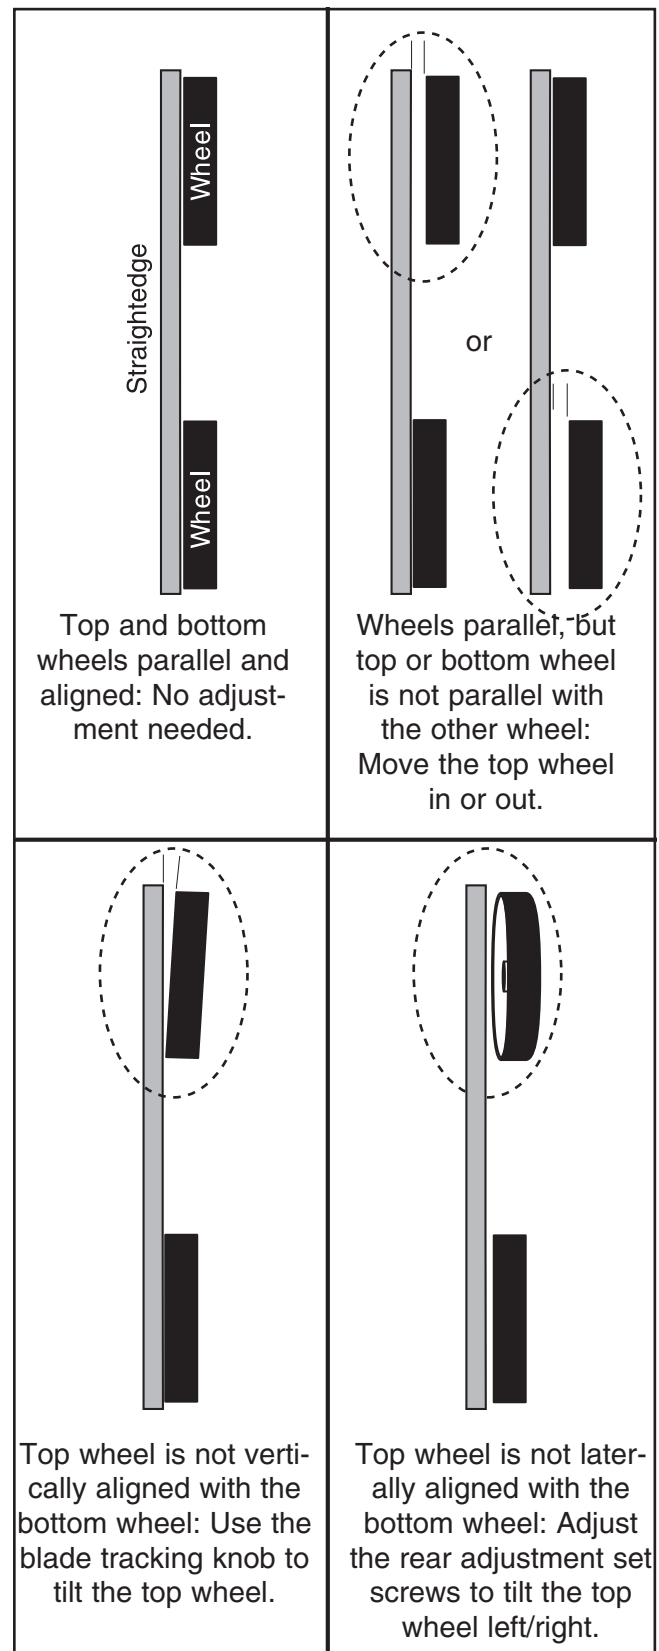

Figure 64. Wheel alignment illustration.
4. Referring to **Figure 64**, check wheel alignment.